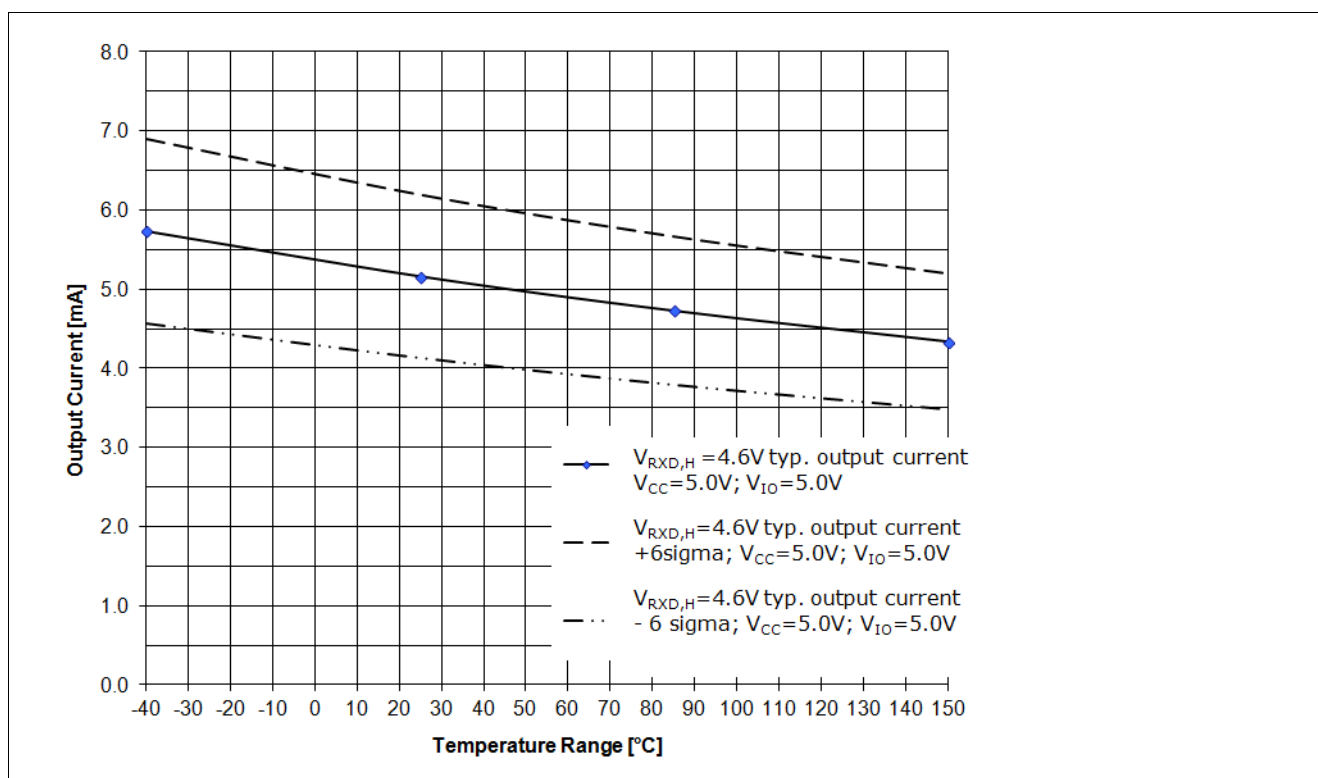

Figure 11 RxD Output driver capability for a logical “High” signal $V_{RxD,H}=4.6\text{ V}$, $V_{CC}=5.0\text{ V}$, $V_{IO}=5.0\text{ V}$ ¹⁾
The diagram in Figure 11 shows the output current capability of the RxD output pin depended on the chip temperature T_J at a V_{IO} power supply of 5.0 V. Figure 12 shows the output current capability of the RxD output pin at a V_{IO} power supply of 3.3 V.
- The curve “VRxD,H = 4.6 V; typ. output current; VCC = 5.0 V; VIO =5.0 V;” displays the typical output current at the RxD output pin of the TLE8250GVIO (see Figure 11).
- The curve “VRxD,H = 4.6 V; typ. output current + 6 sigma; VCC = 5.0 V; VIO =5.0 V;” displays the expected maximum value of the output current at the RxD output pin (see Figure 11).
- The curve “VRxD,H = 4.6 V; typ. output current - 6 sigma; VCC = 5.0 V; VIO =5.0 V;” displays the expected minimum value of the output current at the RxD output pin (see Figure 11).